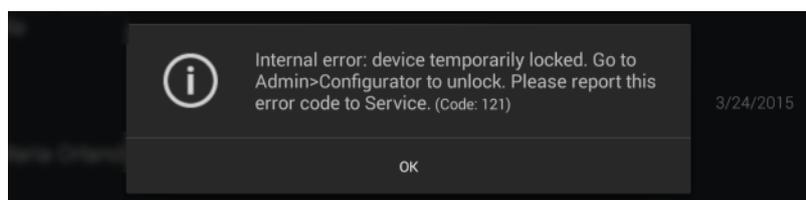

Fig. 16 – Example of error message
- Federal laws (US) restrict this device to sale by or on the order of a physician or a properly licensed practitioner.
- In case an unexpected hardware condition occurs during use, an error message may appear (see for example Fig. 16) and COMPASS may become temporarily locked. It is possible to reset this condition by letting the device re-initialize: refer to par. 12.4 for the complete procedure. If the error condition persists, please contact an authorized service center.